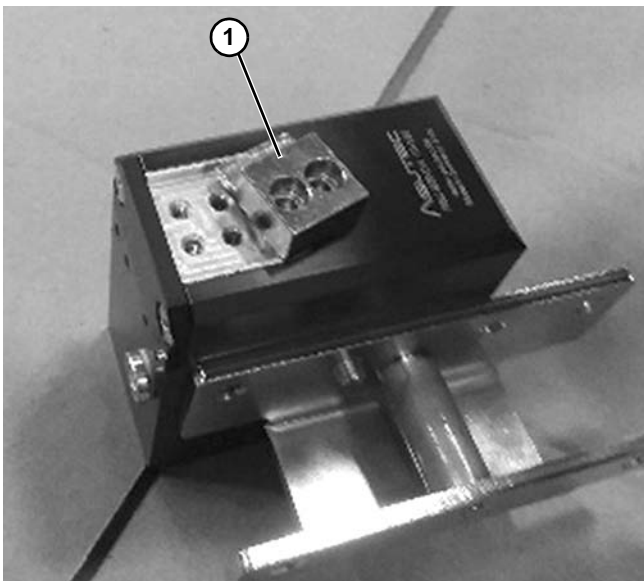

Figure 11
5. Remove stop (Figure 11, item 1) and rotate 180 degrees.